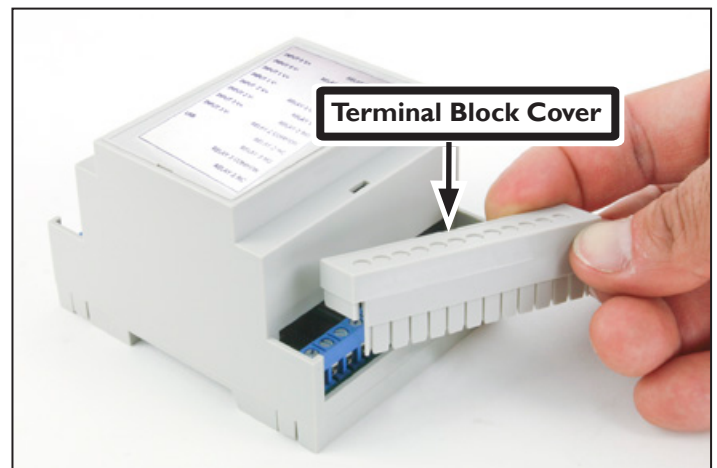

Figure 4
4. Attach the Terminal Block Covers over both terminal blocks (see **Figure 4**).